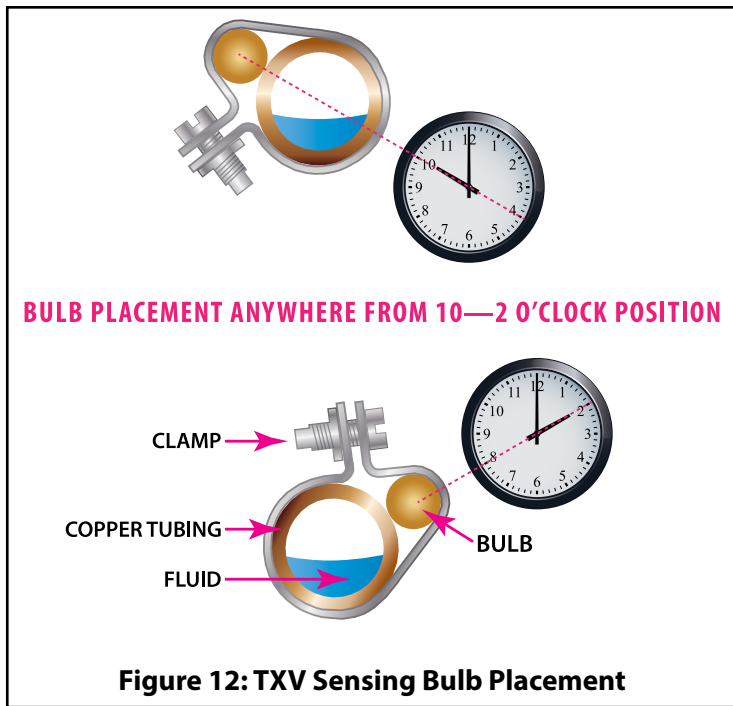

Figure 12: TXV Sensing Bulb Placement
- a. The sensing bulb should be installed on a horizontal run of the suction line if possible and should be positioned between 10 o'clock and 2 o'clock as shown in Figure 12.